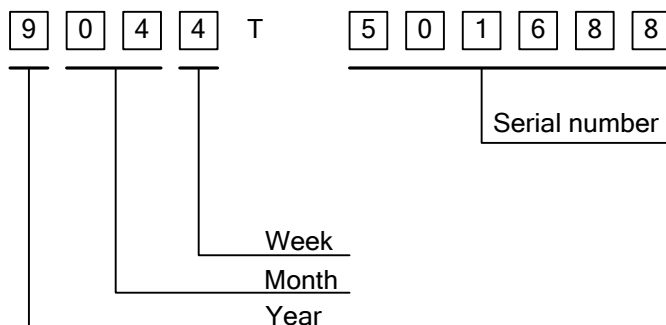

Fig. 13.1
1) The lot mark is showing in Fig.13.1. First 4 digits are used to represent production lot, and the last 6 digits are the serial number.